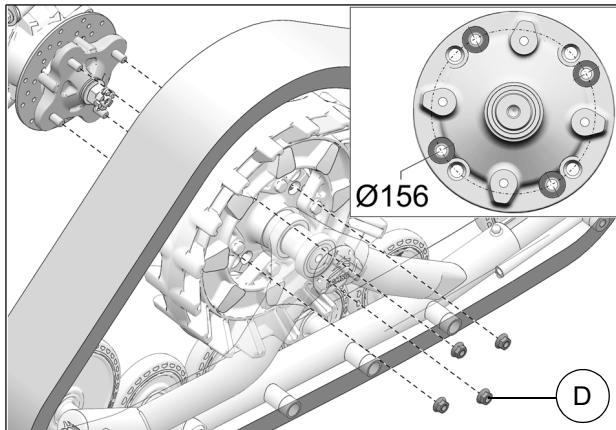

Fig. 10
9. Secure undercarriage to rear hub using the provided M10 lug nuts (D). Use bolt circle  $\text{\O}156$  mm. See Fig. 10